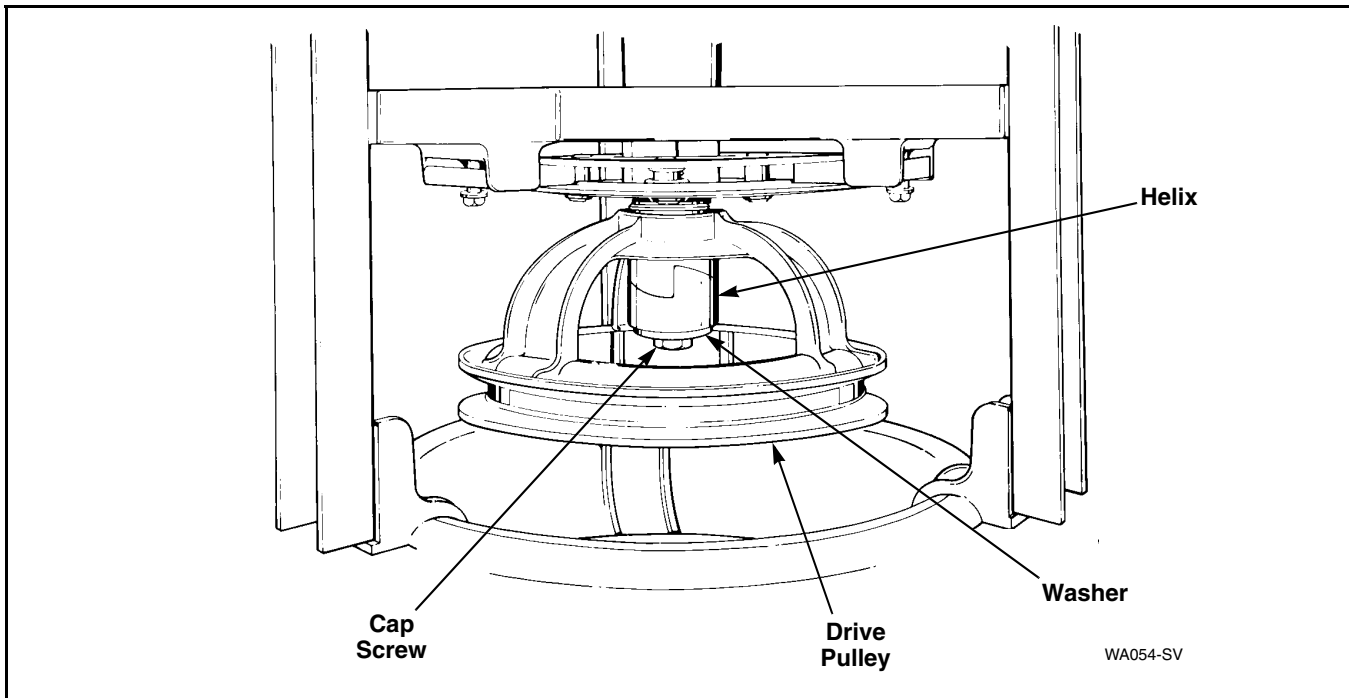

Figure 35
- Remove screw, washer and helix holding drive pulley to the input shaft of the transmission assembly. Refer to *Figure 35*.
- Remove screw, washer and helix holding drive pulley to transmission shaft. Refer to *Figure 35*.
- Remove drive pulley from transmission shaft. Refer to *Figure 35*.
- Remove large, flat washer from transmission shaft. Refer to *Figure 35*.